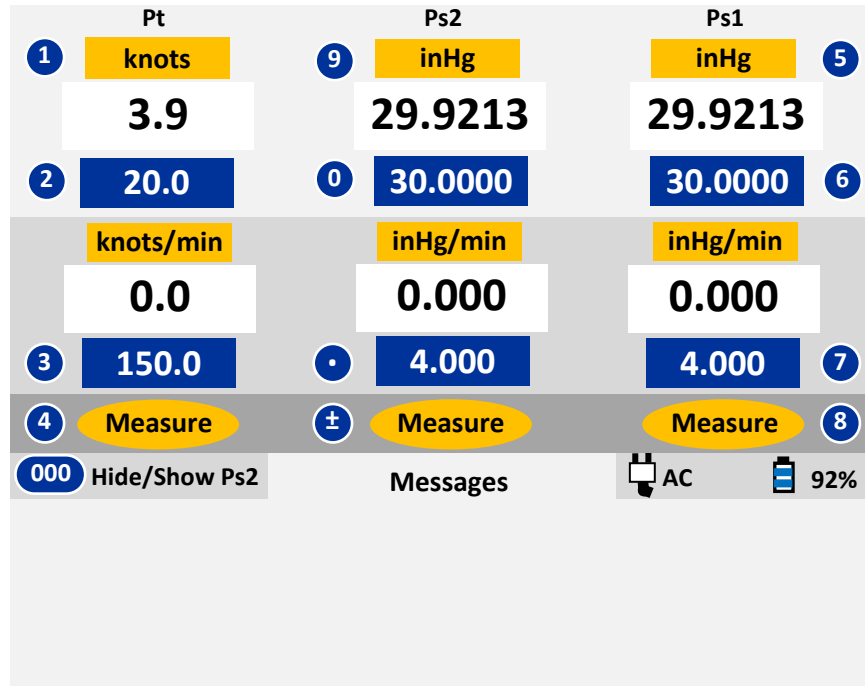

Figure 3.5 : Select knots
For example, if units of QcinHg is to be selected, in the 'Pt units (1)' screen, press '6'. The Lower section will blank out and the Upper section will appear as shown in Figure 3.5 below.